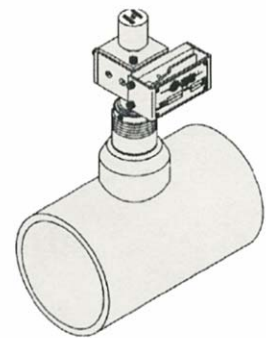

Figure 4
6. Tighten Lock Screw to secure Main Assembly and slide Dust Seal onto 2" NPT Adapter (Figure 4).